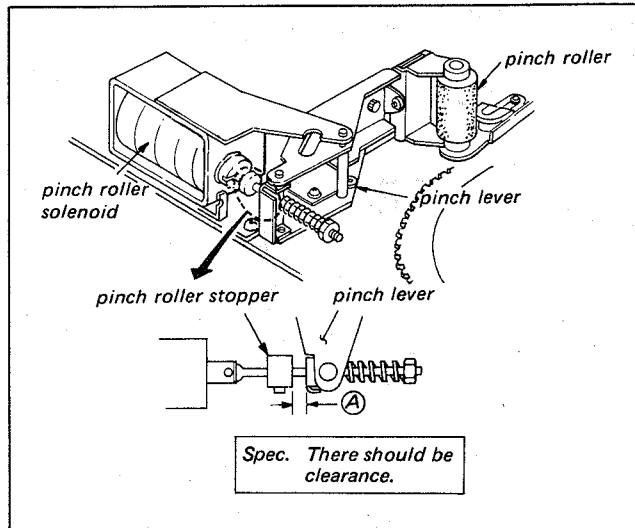

Fig. 6-15. Tape advancing power adj. (FWD mode without tape)
2. Check to see that clearance (A) as shown in Fig. 6-15.
- If (A) clearance will not exist, proceed to the sec. 6-1.
4. Pull the tension scale against the tape advancing power, gradually, until tape starts its slippage at the Capstan. Take the tension scale reading, that should be in between 700 g ~ 1100 g. If not, adjust the nut shown in Fig. 6-15.